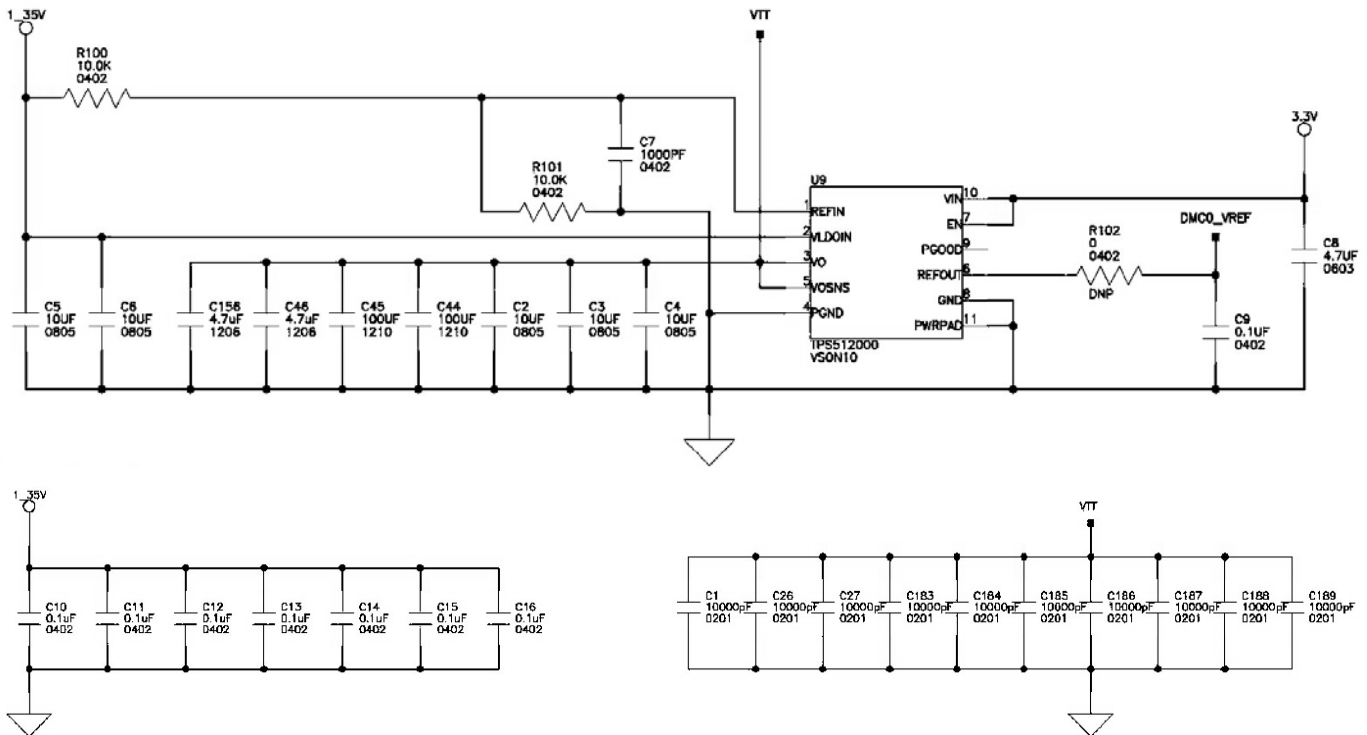

Figure 3. VTT Supply and Decoupling Scheme
- VTT islands require at least two additional decoupling capacitors (4.7 μ F) and two bulk capacitors (100 μ F) at each end as shown in Figure 3.
Rev 2 – September 10, 2020 by Sachin-V Kumar	Added new section “Routing Guidelines for Other High-Speed Interfaces” Minor changes in “VTT Termination” Added a new note in “Placement and General Routing Guidelines” Minor changes in “Figure 3”